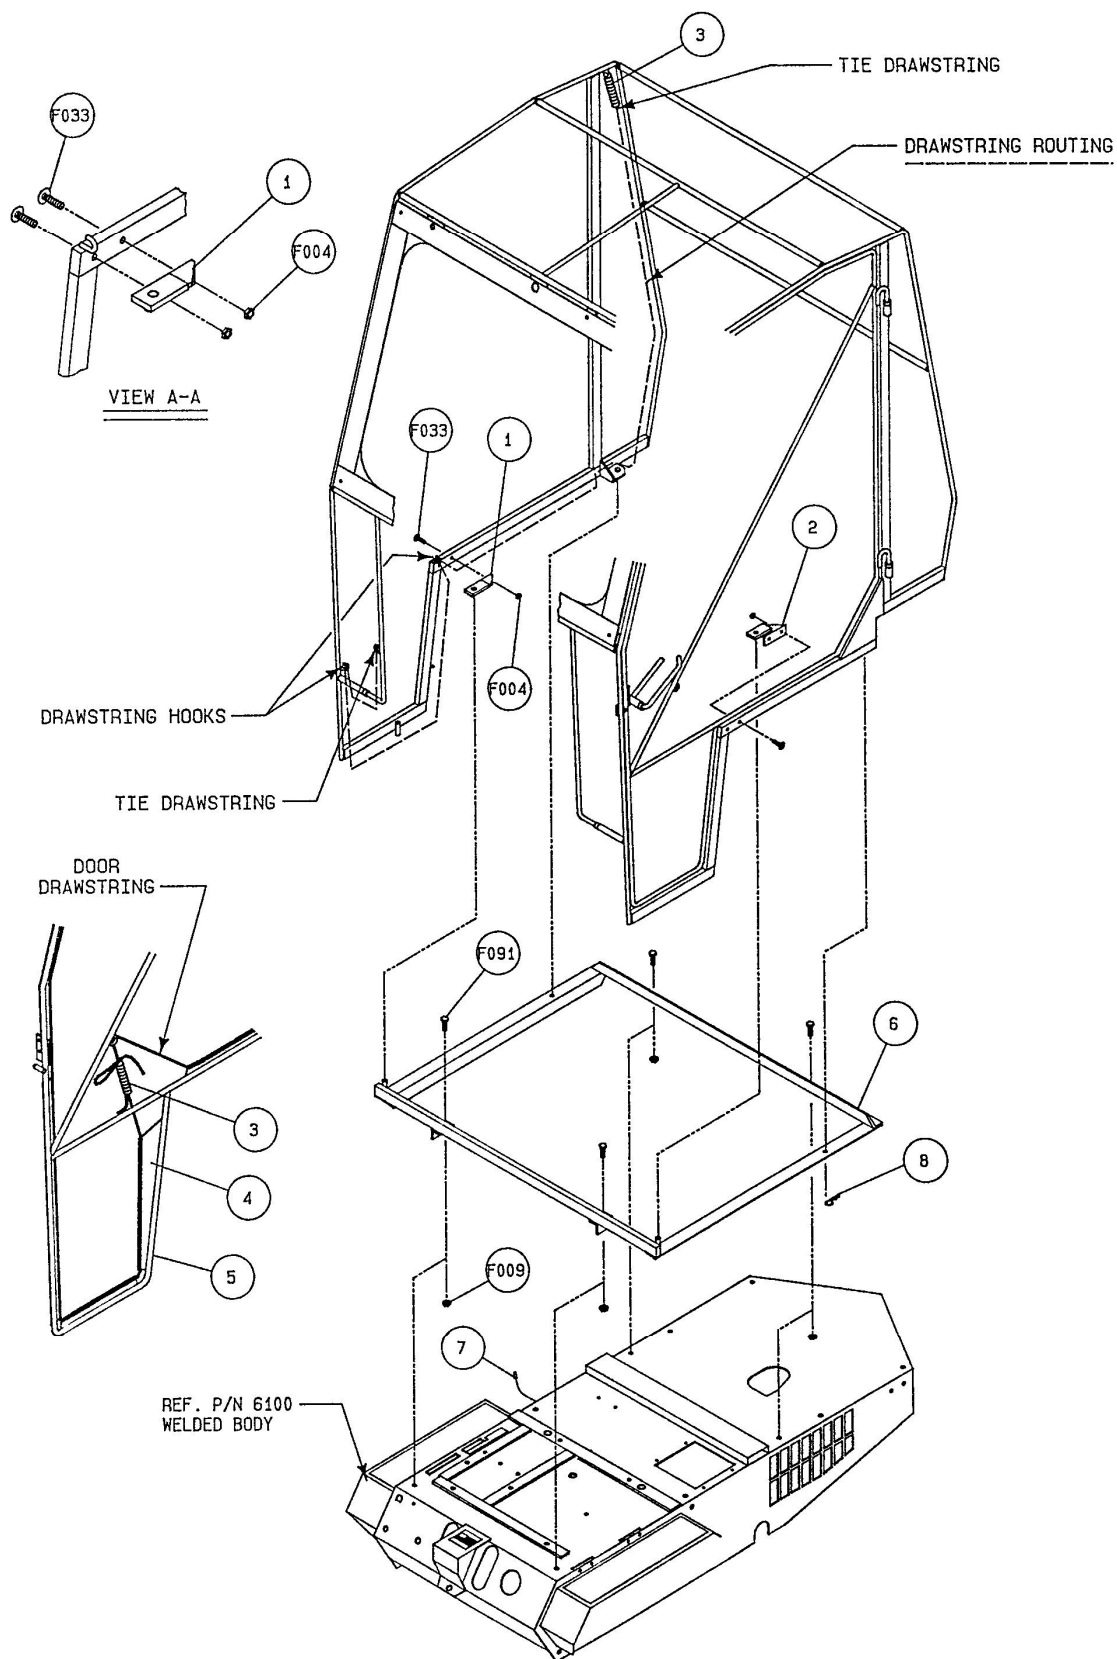
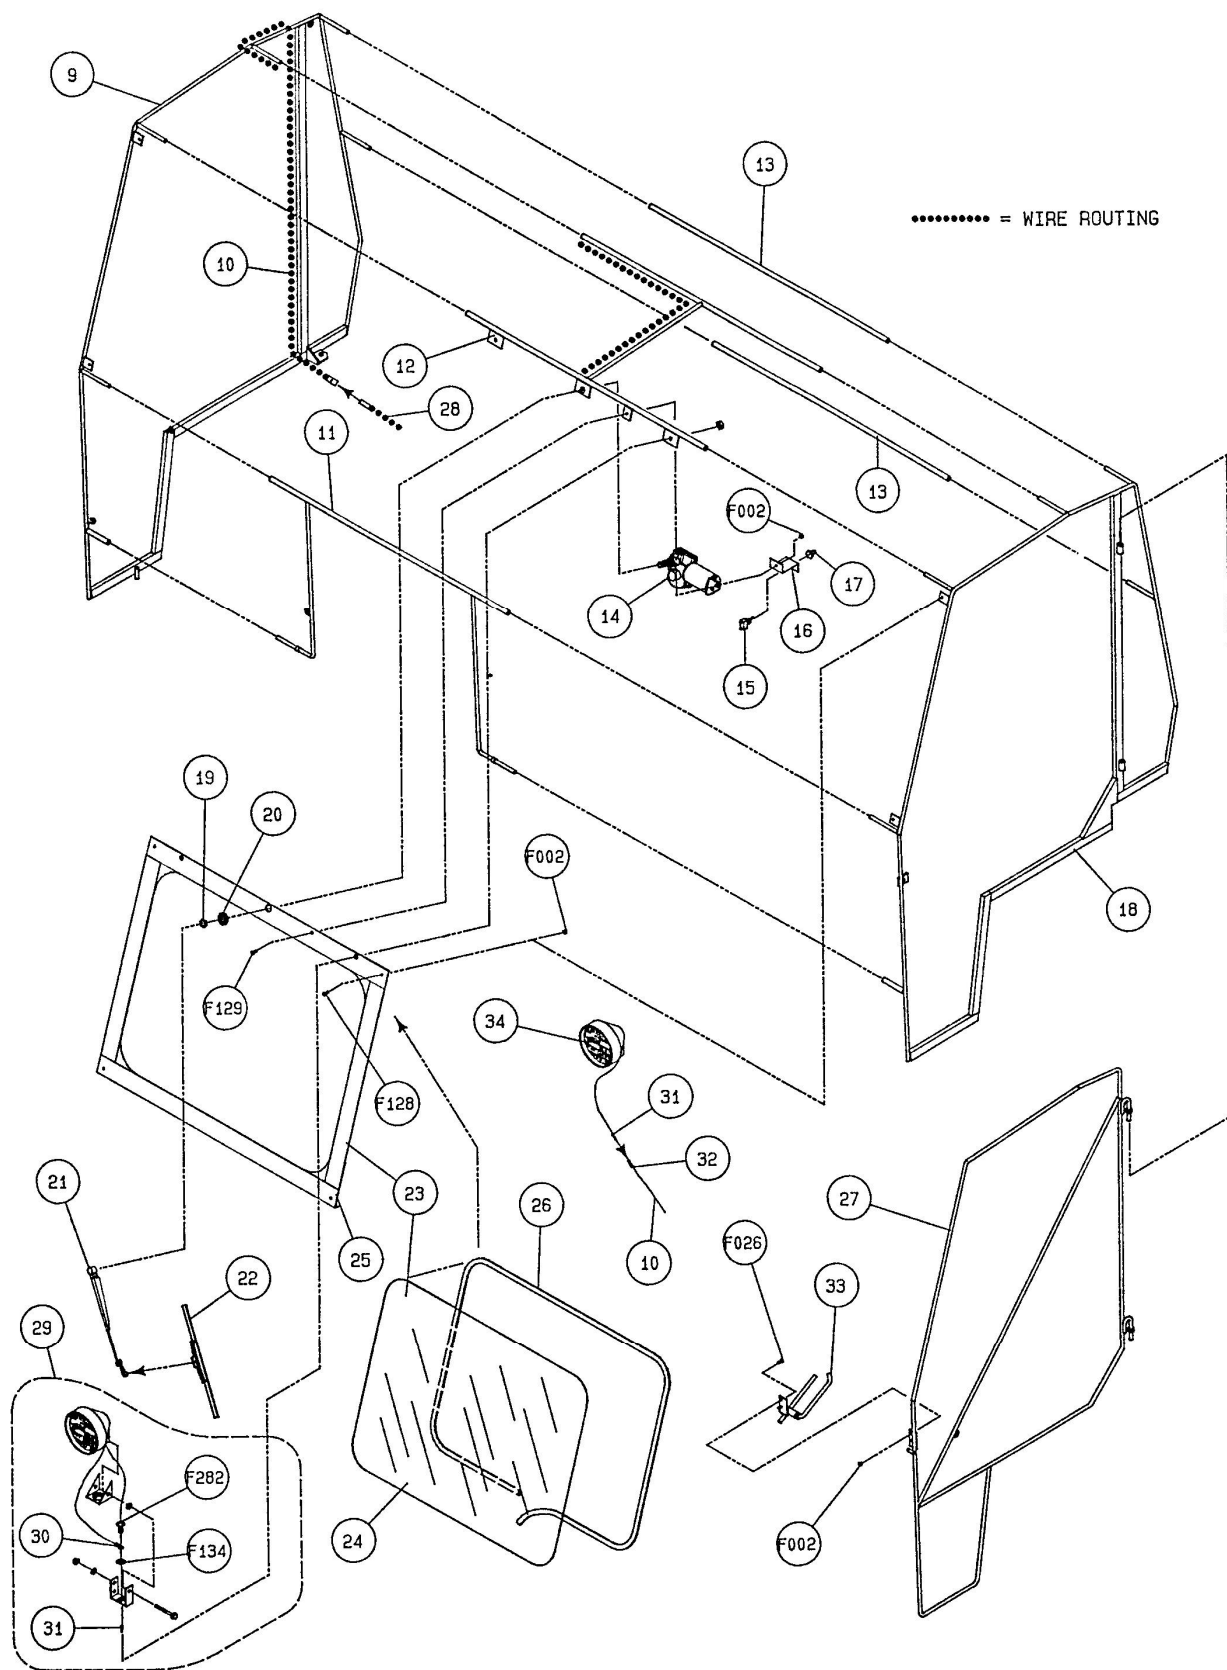

FIGURE 1 - P/N SC5661 OPERATOR CAB ASSEMBLY
FIGURE 2 - P/N SC5661 OPERATOR CAB ASSEMBLY
1. Install cab mount frame, P/N 7669-10, onto body assembly, P/N 6100, as shown on Figure 1:
- (c) Mark and drill four (4) 5/16" mounting holes in body assembly and attach as shown on Figure 1.
- (a) Install RH side frame, P/N 7664-2, into its mounting hole in cab mount frame as shown on Figure 1.
- (b) Place RH Mount Angle, P/N 5672, onto front mounting pin of cab mount frame as shown on Figure 1. Position the mount bracket along side of rectangular tubing of the cab frame. Mark and drill two (2) 1/4" mounting holes through rectangular tube in cab and attach as shown on Figure 1, View A-A.
3. Assemble cab frame; remove RH and LH side frames from the tractor and assemble cab frame as shown on Figure 2. Follow sequence below for assembly:
- (d) Mount windshield frame, complete with safety glass, to cab frame using four (4) F128 bolts and four (4) F002 Keps nuts (see Figure 2). NOTE: Do not install wiper motor at this time.
- (e) Install cab frame onto tractor. Secure with four (4) hitch pins, P/N 7666.
4. Install cab fabric cover, P/N 7661. Place cab fabric over cab frame assembly and align as closely as possible. Fasten Velcro around windshield first. Next, route drawstring for RH side, according to Figure 1, and tension rope with spring, P/N 5222. Fasten Velcro on LH side and across back. It will be necessary to repeat above procedure several times in order to achieve proper fit. The fabric and Velcro will stretch, especially the first 48 hours after installation.
5. Install wiper motor and switch mount. See Figure 2. NOTE: It is highly recommended to wait 48 hours after initial installation of cover before proceeding with wiper motor installation. It is necessary to cut hole in fabric for motor shaft, and this should be done after fabric has stretched and final adjustments of fit have been done.
- (b) Connect 9 ft. wire assembly, P/N 5670-1, to switch and route as shown in Figure 2. Secure to cab frame with wire ties, P/N 5975-1.
8. Install door fabric onto door frame, P/N 7662, using extension spring, P/N 5222. Route drawstring through loop on door brace and tie to spring as shown on Figure 1. Install door latch assembly, P/N 7667, as shown on Figure 2. NOTE: Door hinges and door latch assembly require occasional lubrication.
## PARTS LIST FOR FIGURE 1
## PARTS LIST FOR FIGURE 2